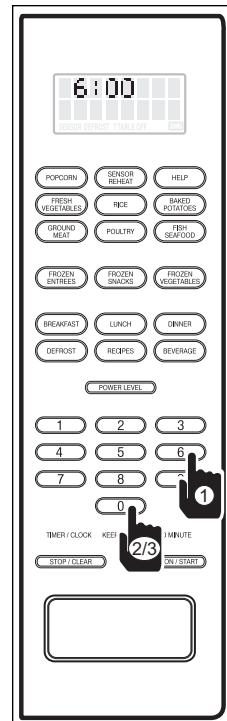

Figure 3-51.
3. Enter desired start time. For example: 6:00; press the number 6 key and the number 0 key twice (See Figure 3-51). The display will flash "PRESS CLOCK".